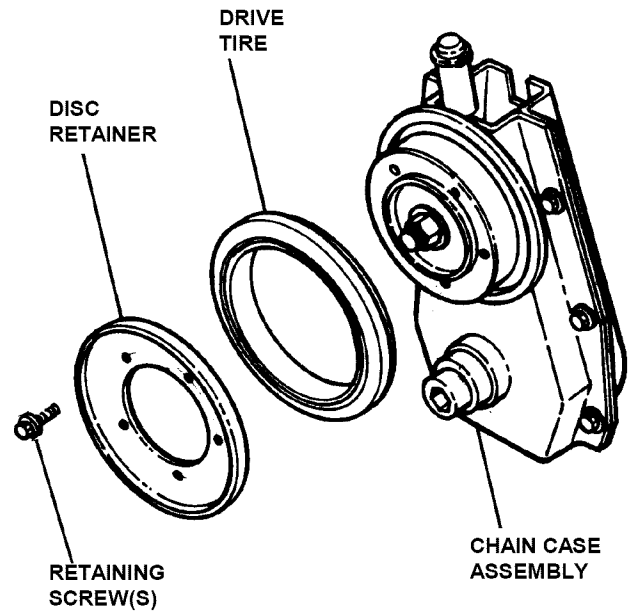

FIGURE 4.14
2. Remove the five bolts that secure rubber drive disc to the drive hub. Remove drive tire. See Figure 4.14.
3. Install new rubber drive disc. Reinstall the five bolts. Torque to 6 to 12 ft. lbs. See Figure 4.14.